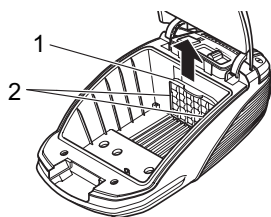

Fig. 30
3. Pull the holder with the protective motor filter (Fig. 30/1) up and out of the locking rails (Fig. 30/2).